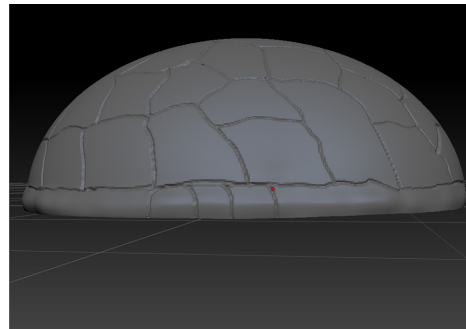

Figure 3-62 Pattern created on the lower part of the *turtle shell* using the **Standard** brush
6. Press and hold the left mouse button and drag the cursor to create another pattern on the lower part of the *turtle shell* using the brush settings mentioned above, refer to Figure 3-62.